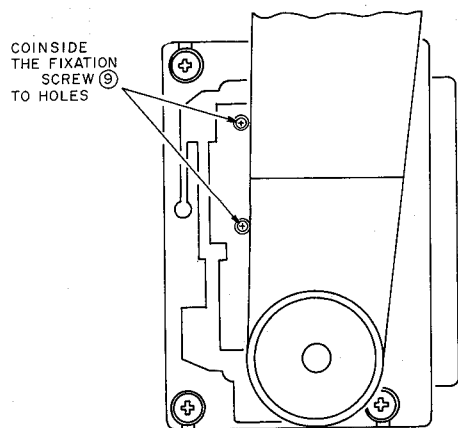

Fig. 4-4
- 1) Move the PICK UP BLOCK and coin side the FIXATION SCREWS ⑨ to the holes as shown Fig. 4-4. and remove the FIXATION SCREWS ⑨.
- 2) Disconnect the connector ⑩ and remove the GLUE ⑪ which fixing the wires.
- 3) Pull out the PRE AMP PCB ⑫ to ⑬ direction.
- 4) Remove two fixation screws ⑭ of LINEAR MOTOR ⑮ and remove the LINEAR MOTOR.
- 5) Remove two fixation screws ⑯ of the SLIDE SHAFTS ⑰, then pull out the SLIDE SHAFTS ⑰ direction and remove the PICK UP BLOCK ⑱.
- 6) Remove two fixation screws ⑲ and remove the PLATE ⑳.